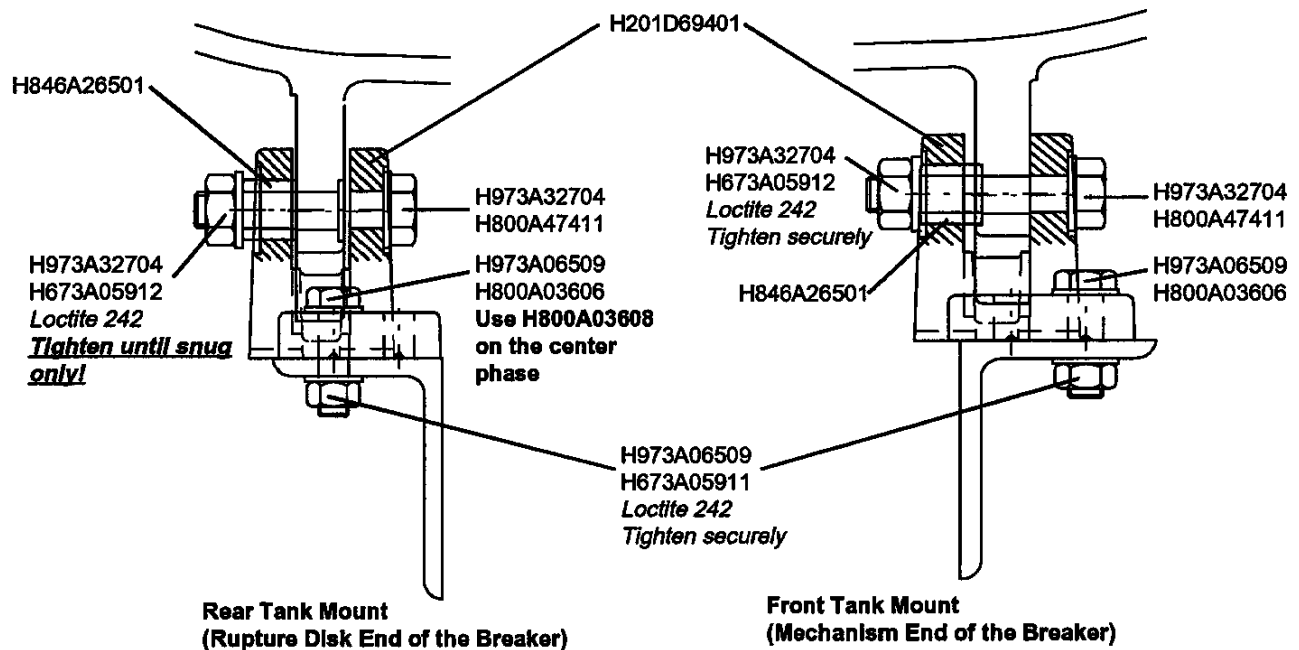

Figure 8
1. Using the indicated hardware, fasten the tank mounting brackets H201D69401 (Fig. 8) at the front and rear of the structural frame as shown in Figure 8. (Note that the location of the bolts differ from front to rear.)